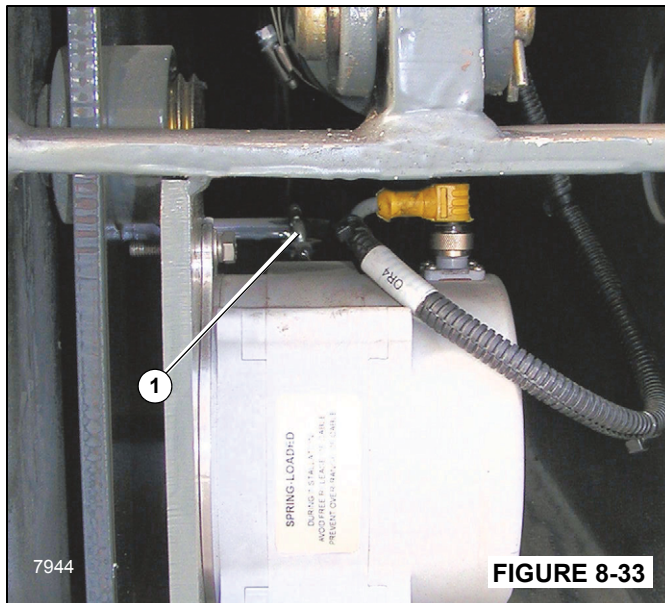

FIGURE 8-33
3. Remove the OMS string potentiometer connector Figure 8-33 from the attaching point on the outrigger beam.